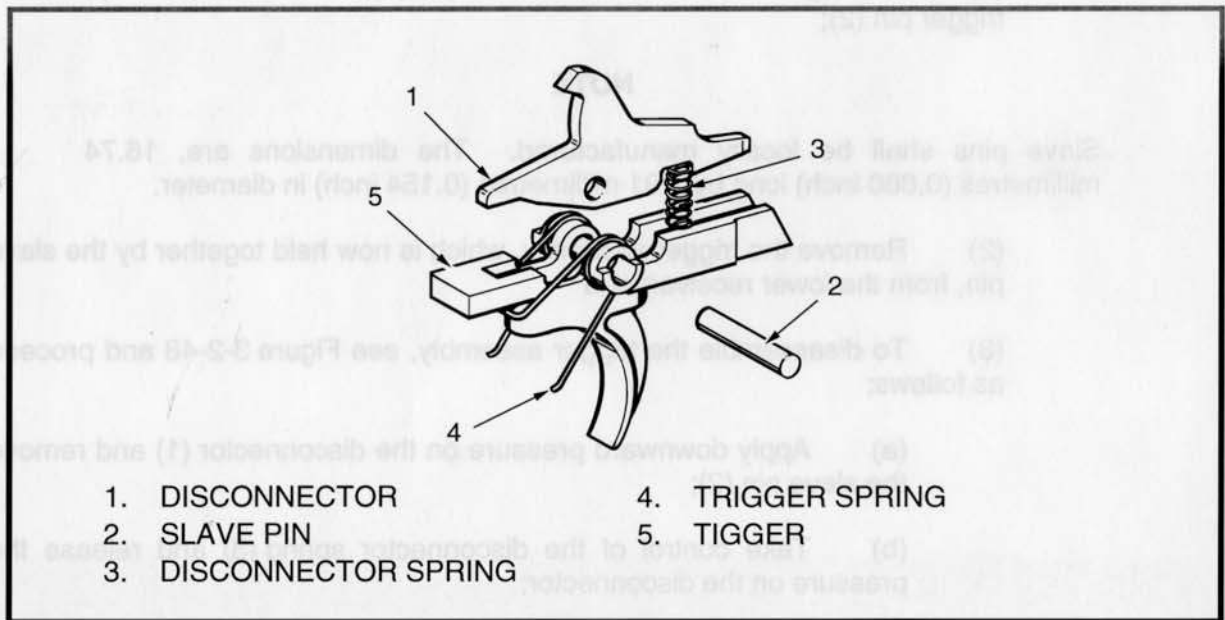

Figure 3-2-48 Disassembling the Trigger Mechanism
(2) Remove the trigger assembly, which is now held together by the slave pin, from the lower receiver; and
(3) To disassemble the trigger assembly, see Figure 3-2-48 and proceed as follows: